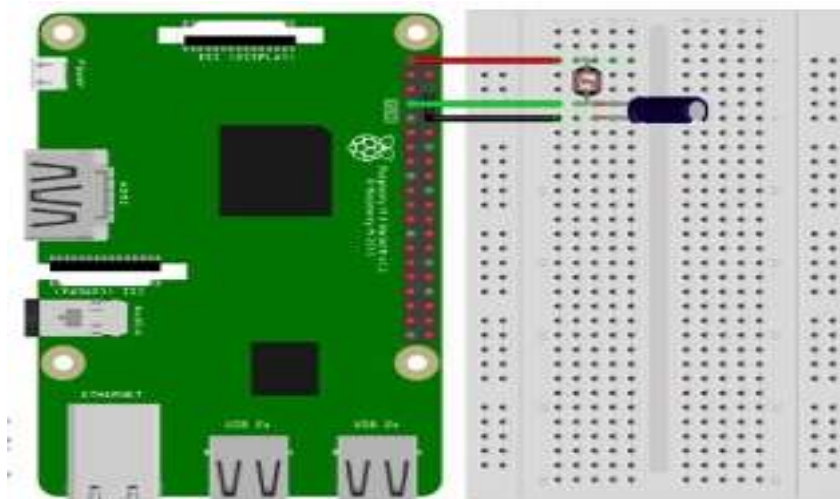

Figure 4.11. Diagram of connecting an LDR to Raspberry PI
- Figure 4.11 shows a diagram of connecting an LDR to the Raspberry Pi.